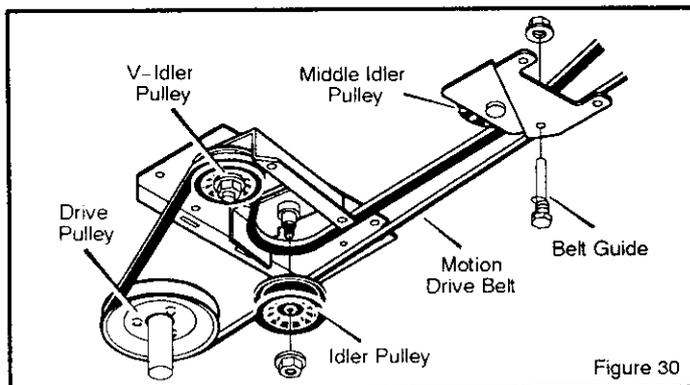

Figure 30
3. Remove the **idler pulley** (Figure 30).
3. Install the end of the **motion drive belt** around the **drive pulley** (Figure 30).